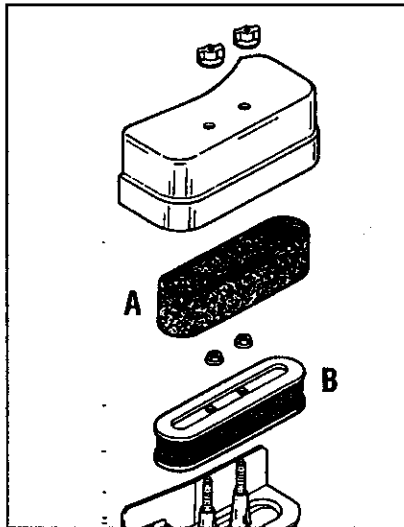

Figure 5-3
Foam Filter (A, Fig. 5-3): Wash and re-oil every 3 months or every 25 operating hours. Clean and re-oil daily if used in extremely dusty conditions.
Paper or Foam/Screen Filters (B, Fig. 5-3): DO NOT ATTEMPT TO CLEAN OR OIL FILTER. Replace once a year or every 100 operating hours, more often if used in extremely dusty conditions.
A. To Service Foam Air Filter (A, Figure 5-3)
A. To Remove and Install Filters (Figure 5-3)
3. Slide Filter (A) off Filter (B).
5. Remove nuts and Filter (B). Discard Filter (B) and nuts (if service is necessary).